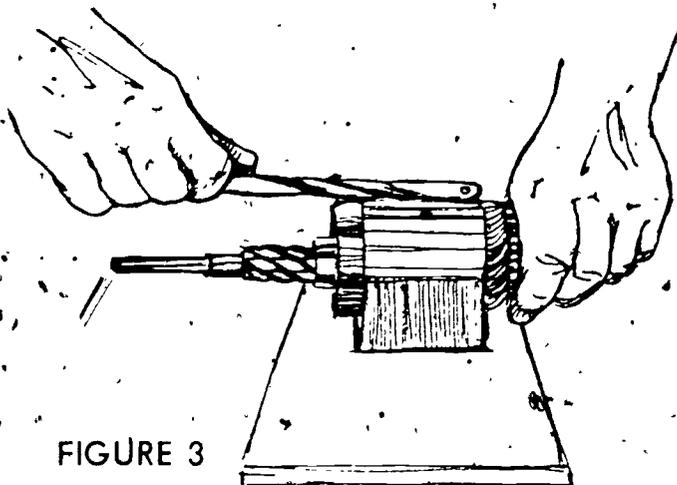

FIGURE 3
7. Test the armature for short circuits (Figure 3)
- G. Replace nylon bumpers if worn. (Figure 3)